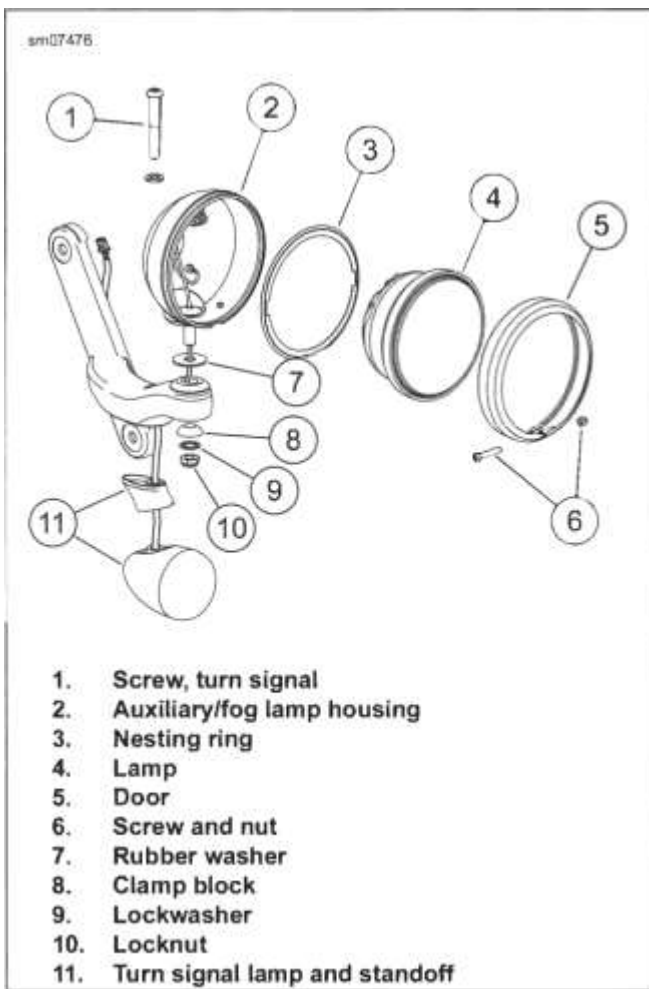

Figure 8-53. Auxiliary/Fog Lamp Assembly
3. See Figure 8-53. Remove screw (1) and washer to release turn signal lamp (11) from bracket.
4. Use flare nut socket to remove locknut (10), lockwasher (9) and clamp block (8).
3. See Figure 8-53. Install rubber washer (7) on stud.
4. Position auxiliary/fog lamp housing on bracket. Install clamp block (8), lockwasher (9) and locknut (10).
5. Use flare nut socket to tighten locknut (10).